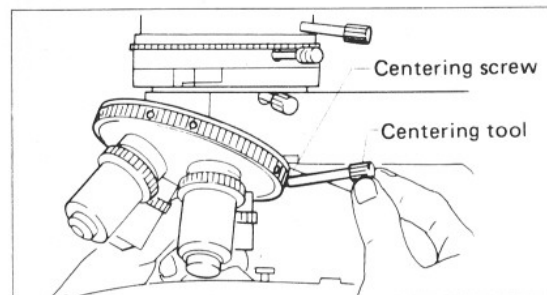

Fig. 9
- 2) Insert the centering tools in the centering screws on the nosepiece. (Fig. 9)